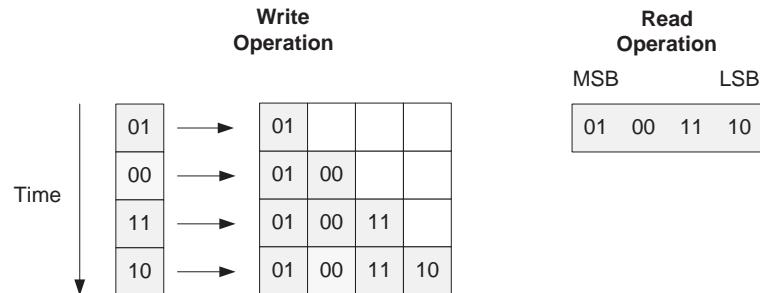
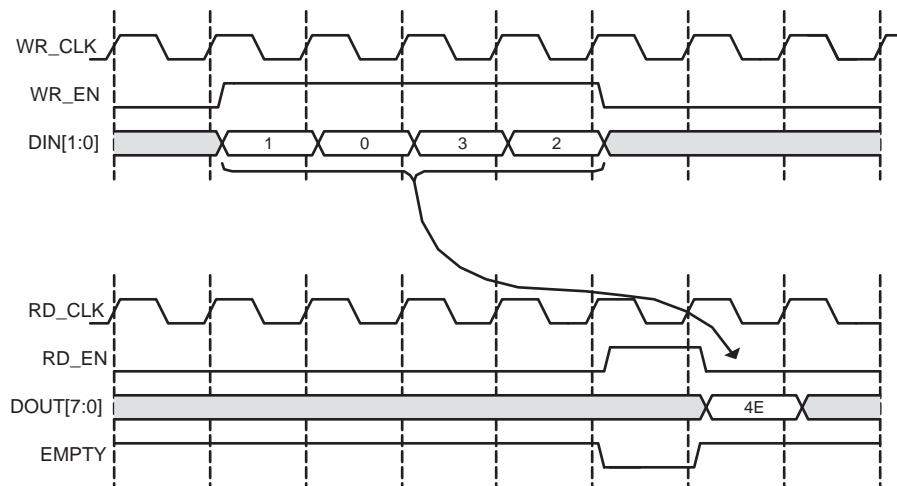

Figure 5-17: 1:4 Aspect Ratio: Data Ordering
Figure 5-18: 1:4 Aspect Ratio: Status Flag Behavior
**Note:** For non-symmetric aspect ratios where the write width is smaller than the read width (1:8, 1:4, 1:2), the most significant bits are read first (refer to Figure 5-17 and Figure 5-18).
**Figure 5-17** is an example of a FIFO with a 1:4 aspect ratio (write width = 2, read width = 8). In this figure, four consecutive write operations are performed before a read operation can be performed. The first write operation is 01, followed by 00, 11, and finally 10. The memory is filling up from the left to the right (MSB to LSB). When a read operation is performed, the received data is 01\_00\_11\_10.
**Figure 5-18** shows DIN, DOUT and the handshaking signals for a FIFO with a 1:4 aspect ratio. After four words are written into the FIFO, EMPTY is deasserted. Then after a single read operation, EMPTY is asserted again.